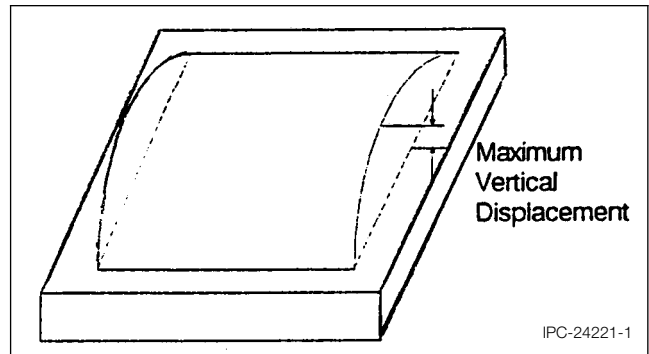

Figure 1
5.2.1 Place the test panels on the surface plate such that the maximum vertical displacement is observed. The panel should be turned over in establishing the maximum vertical displacement. The maximum vertical displacement may be a corner or a side of the test specimen as illustrated in Figures 1 and 2.